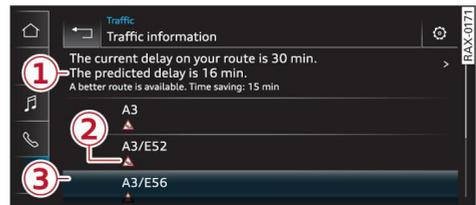

Fig. 125 Overview of traffic information
The MMI informs you if a better route is available via a notification or a message in the traffic information ① ⇒ *page 170, Fig. 125*. You can then choose which route you would like to use.
- ▶ **Message in the traffic information:** Press on the entry in the list ① ⇒ *page 170, Fig. 125*. Press on the information window for the better route (e.g. ② ⇒ *page 168, Fig. 124*).
Breakdowns, accidents and slippery roads will be displayed in the traffic messages ⇒ *page 170, Fig. 125*.